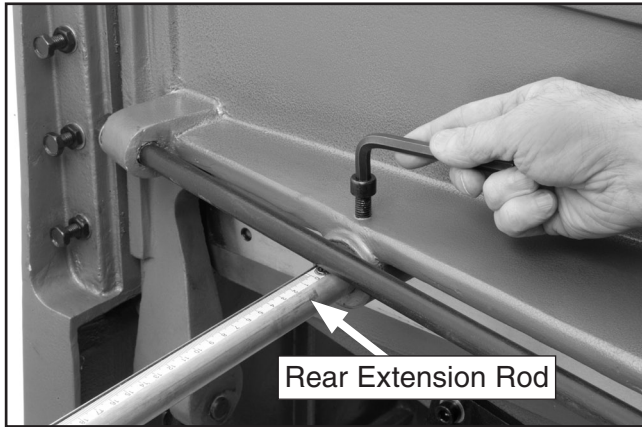

Figure 10. Installing rear extension rod.
2. Tighten the cap screws (**Figure 10**).